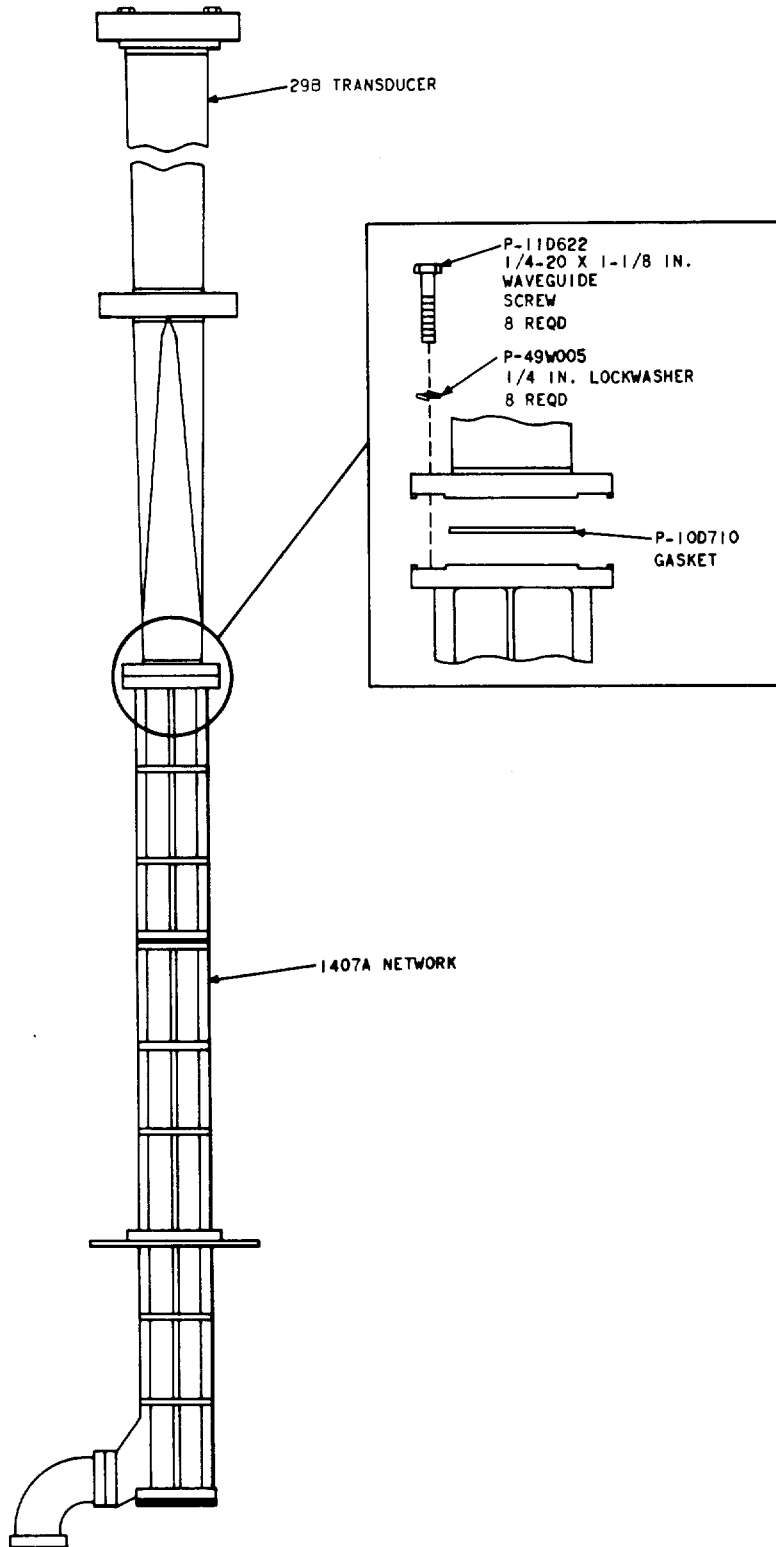

Fig. 18—Installation of 1407A Network to 29B Transducer
**3.02** When vertical space below an antenna is limited, the 1427A networks and passive networks may be omitted. The 1407A network is attached directly to the 29B transducer as shown in Fig. 18. All networks after the 1407A network are installed as described in Part 2.